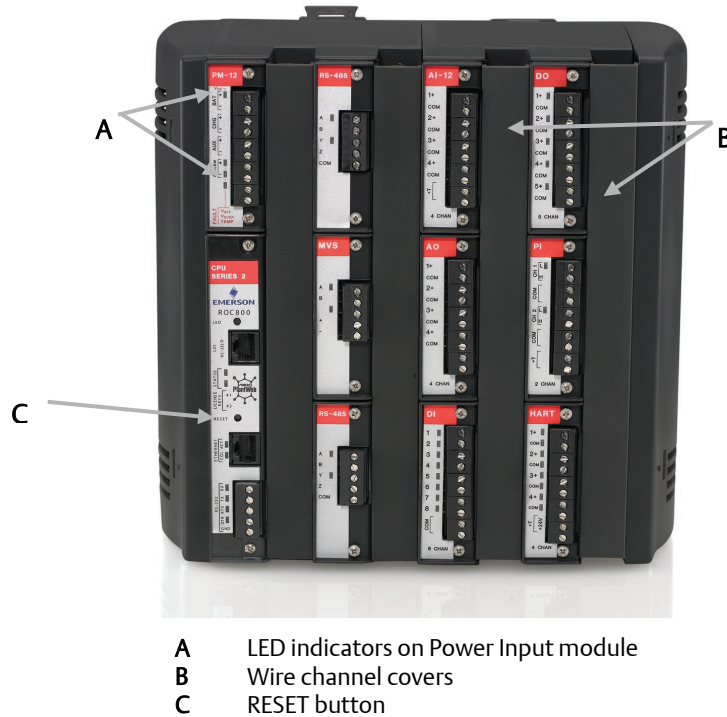

Figure 8. ROC809 Remote Operations Controller
6. Press the wire channel covers into place over the wiring channels, once wiring of the terminal blocks is complete. See Figure 8.
power input modules or V_{12} on the PM-24 power input module) should light green to indicate that the applied voltage is correct. Then, the STATUS indicator on the CPU should light to indicate valid operation. Depending on the Power Saving Mode setting (available only on the PM-12 power input module), the STATUS indicator may not remain lit during operation. See Figure 8.
The RESET button on the front of the CPU module restores the unit to factory defaults (see Figure 8). To use the RESET button, remove power from the unit and firmly depress the button for 15 seconds with a pen or stylus while applying power. Refer to the *ROCLINK 800 Configuration Software User Manual (for ROC800-Series)* (part D301250X012) concerning warm and cold starts.